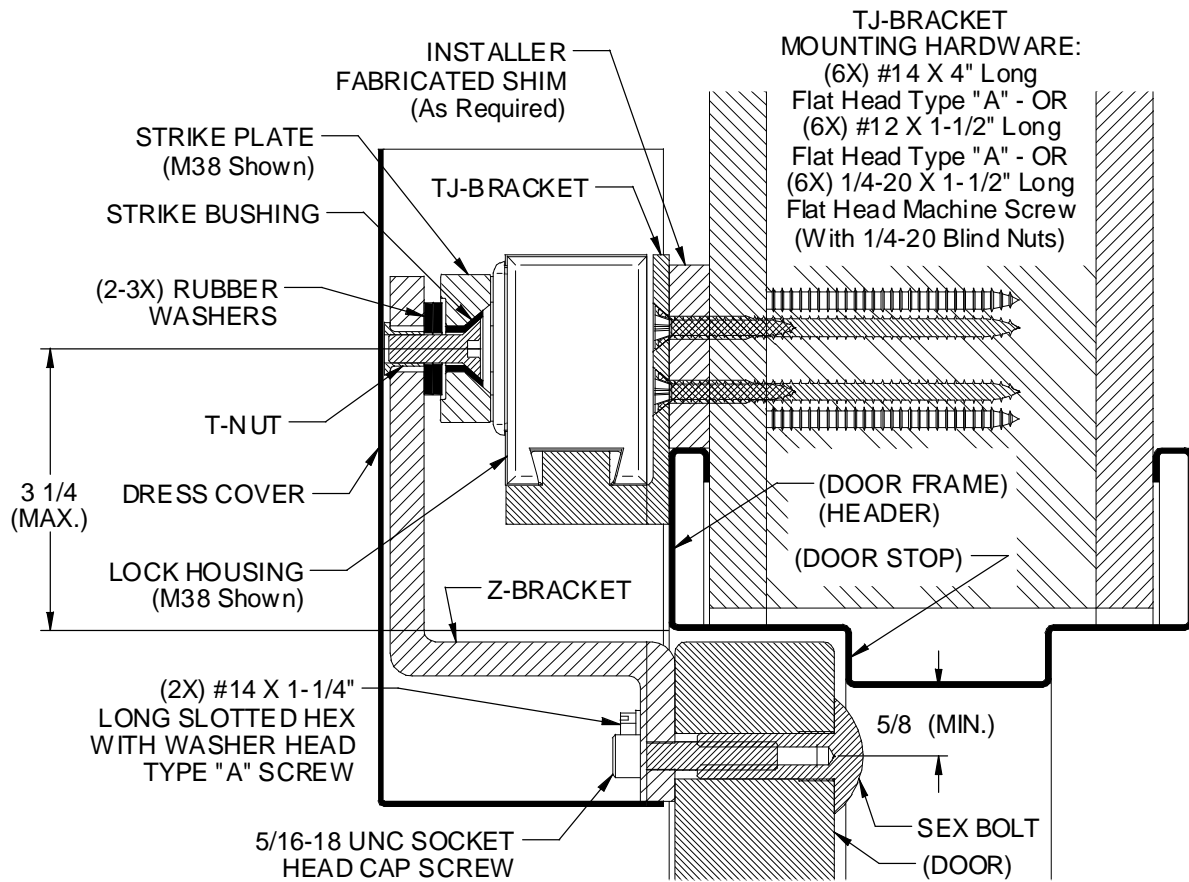

Figure 3
The TJ-Bracket has six (6) mounting holes that can be used, and hardware has been included with the kit to anchor the bracket to a variety of structural mounting surfaces. Figure 3 below is a cross section view of a typical M38 Magnalock installation on a metal door frame in the inswinging door mount configuration using the TJ-38 Kit:
- 1) When positioning the lock assembly, the center of the magnet must be located within the 3-1/4" area from the edge of the door opening. This will provide adequate room for the strike mounting hardware on the Z-Bracket. (See Figure 3).
- 3) Prior to drilling holes in the door, double-check to confirm that there is adequate space to drill the three (3) holes required in the long leg of the Z-Bracket for the strike mounting. (At this point the Z-Bracket may also be used as a template to mark the three (3) mounting hole locations for drilling the door).